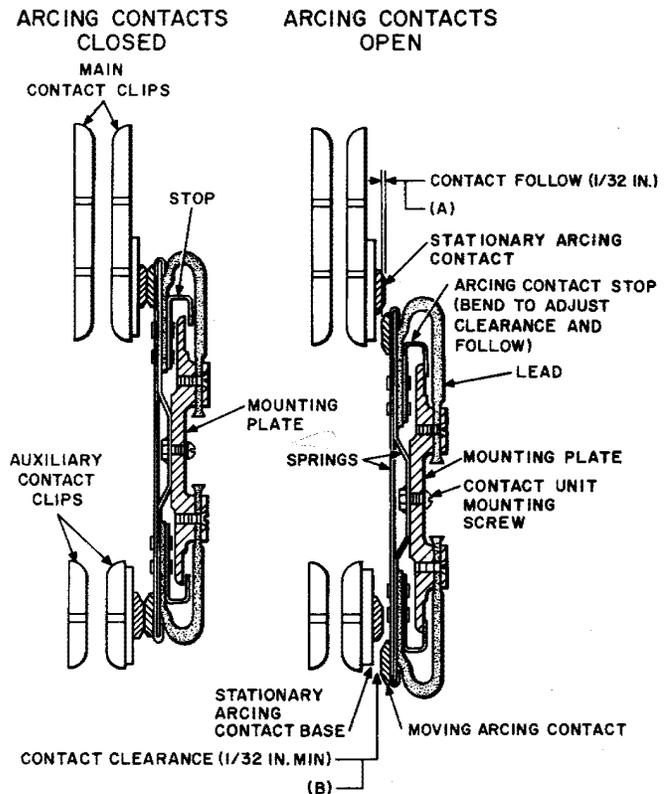
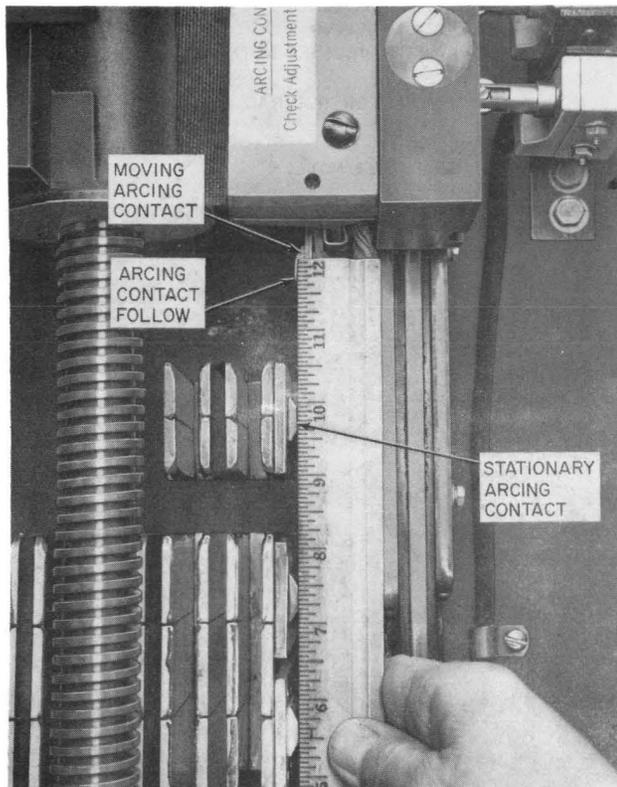
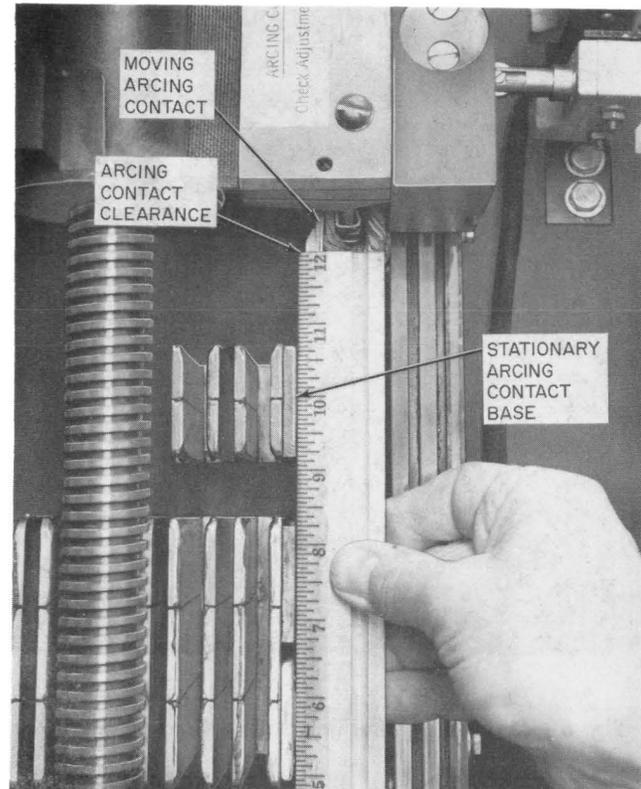

Fig. 3—Moving and Stationary Arcing Contacts
Fig. 4—Method of Measuring Arcing Contact Follows
Fig. 5—Method of Measuring Arcing Contact Clearance
4.07 Arcing Contact Follow (Fig. 3 and 4): The follow of the moving arcing contacts shall be 1/32 inch. Measure, as shown in Fig. 4, using insulated straight edge.
****4.08 Arcing Contact Clearance** (Fig. 3 and 5): The clearance between the moving arcing contacts and the base of the stationary arcing contacts when the contacts are open shall be minimum $1/16 \pm 1/32$ inch. Measure, as shown in Fig. 5, using insulated straight edge.